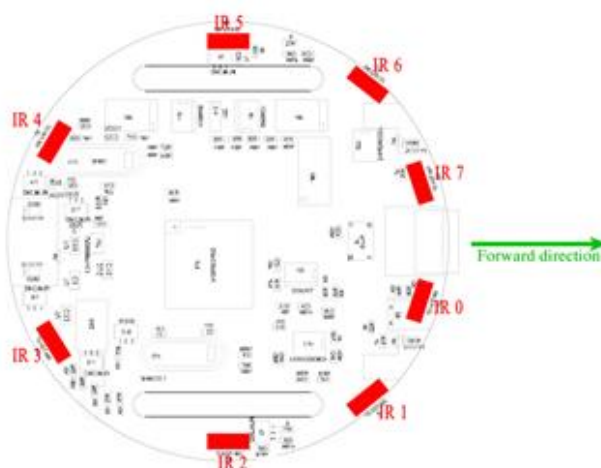
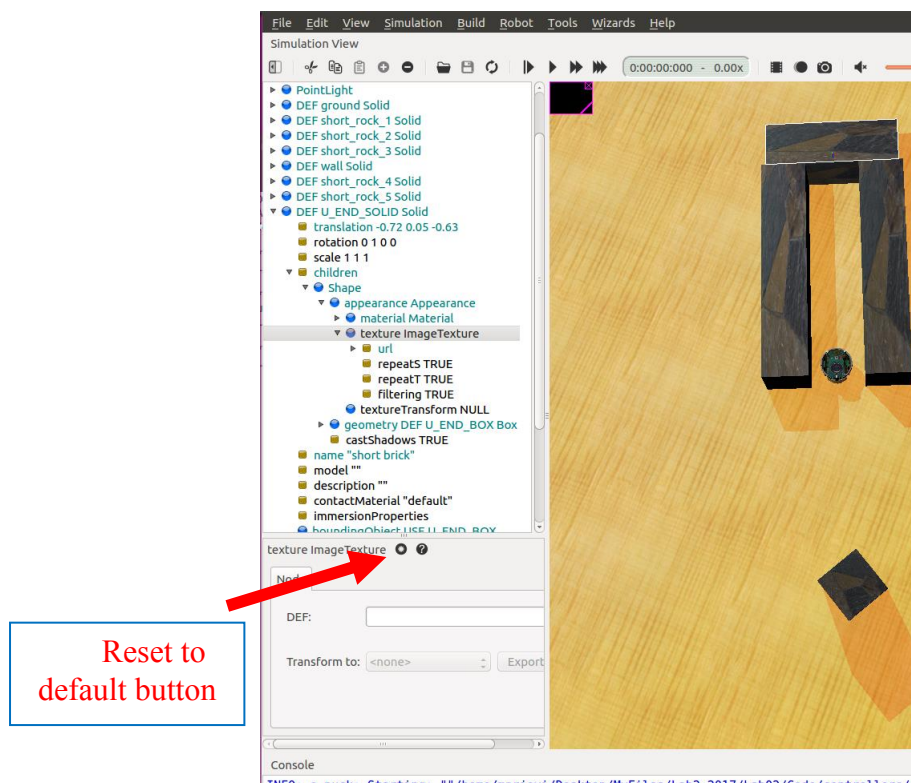

Figure 6: E-puck proximity sensors
Figure 7: Reset to default button shown in Webots environment.
Examine the *e-puck.c* code carefully: The distance sensors in the file correspond to those indicated in *Figure 6*. For example, `ps0` in the code corresponds to *IR0* in *Figure 6*, `ps1` in the code corresponds to *IR1* in the figure, etc. Note that sensor numbers increment going clockwise; `ps0` and `ps7` are at the front of the robot.
- I1 (5):** Modify *obstacle.c* so that your robot becomes capable of avoiding a wide variety of obstacles in different mazes. Start with lines 96-104. Here you can see that the current algorithm looks at the value of *ds\_value[0]*, corresponding to IR 0 in *Figure 6*. Extend this approach to use both of the central proximity sensors on the front of the e-puck (i.e., both IR 7 and IR 0). Make sure you save your new controller code in *obstacle.c* and your world in *obstacle.wbt*.
- I2 (10):** Next, exploit all eight of the available proximity sensors (i.e., all eight values in *ds\_value*). Test the performance of your obstacle avoidance algorithm. Try to keep your solution simple and reactive.
- Q3 (5):** What happens when the robot tries to avoid obstacles here? If your obstacle avoidance still works, what types of controllers might have trouble here? If it does not work, how could the controller be modified to work properly?
- I4 (10):** In the same way that you created the *obstacle.c* controller, now create a new controller named *u\_obstacle.c* that allows the robot to escape from a U-obstacle (if it could already, you can keep the same code). Be sure you save your new program in *u\_obstacle.c*.
- To remove the texture, select: DEF U\_{...}\_SOLID -> children -> Shape -> Appearance -> texture ImageTexture, and then hit the Reset to default button. *Figure 7* shows where this button is located.